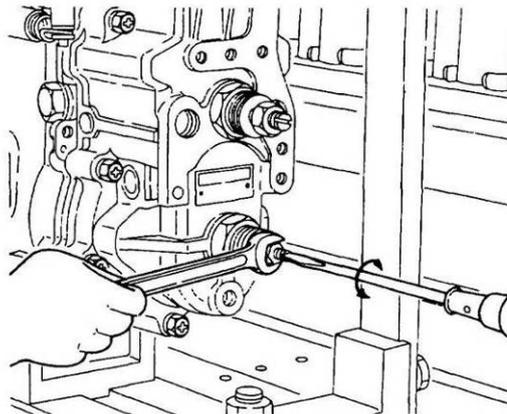

Figure 123 Adjustment of the Inner Idling Spring
- m. Adjust the pump speed to 240 rpm and adjust the screw on the idling capsule until the control rack is at 9.5 mm (Figure 123). Tighten the locknut securely. The inner idling spring is now set. Install the cap-nut, together with a new gasket, and torque the cap-nut to 16 to 20 N.m (12 to 15 lbf.ft).